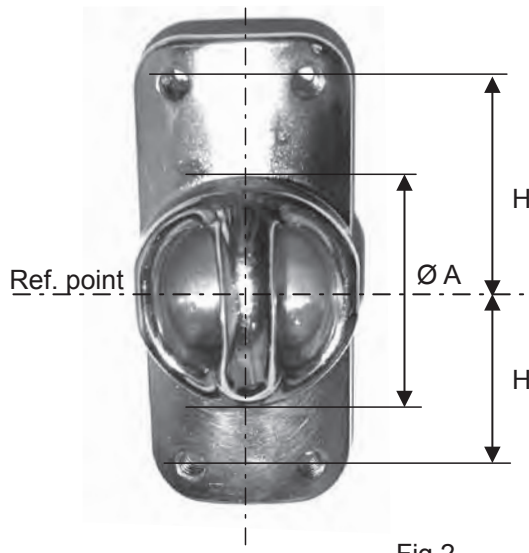

Fig 2.
3. Drill  $\text{Ø } 4,9$  mm at the mark and then use hole saw  $\text{Ø } A$ , see Fig 2, Table 2.
3. Drill  $\text{Ø } 4,9$  mm at the mark and then use hole saw  $\text{Ø } A$ , see Fig 2, Table 1.
5. Mark for MFT M8 screws, see fig 2. and table 1.